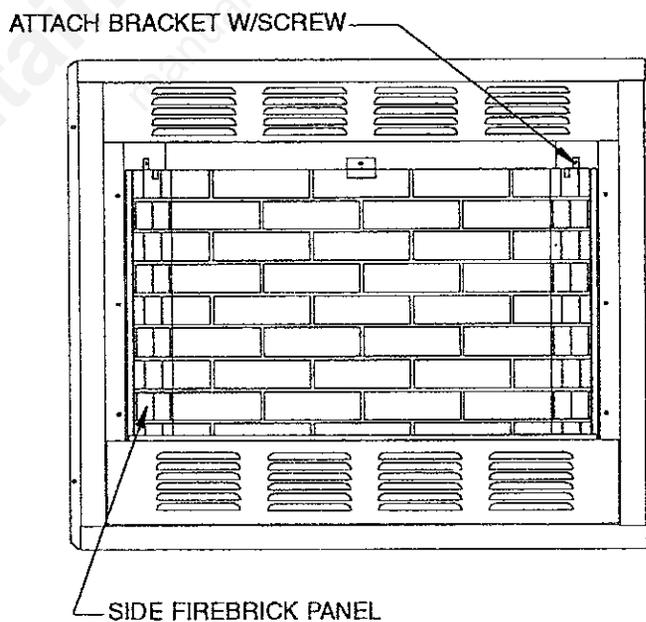

Figure 7b
5. Place the side firebrick panels in the firebox, as shown in Figure 7b.